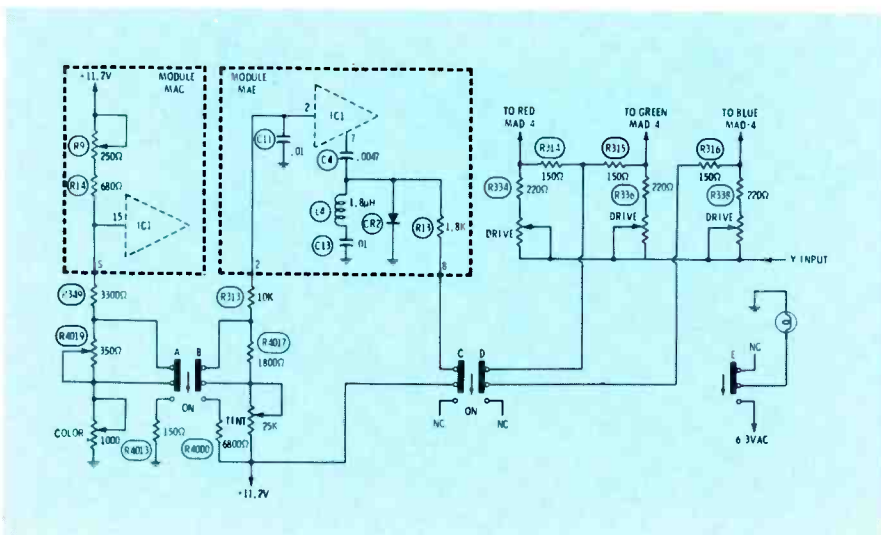

Fig. 5 Schematic diagram of the AccuMatic switching circuit used in the CTC 46 chassis.
Fig. 5 Unequal amplification of subharmonics also changes the shape of a waveform, as illustrated by these two photos. (A) Normal rectangular waveform. (B) Distorted rectangular waveform produced when the gain of the 10th subharmonic was reduced 1 dB.
In the RCA CTC 46 chassis, the ranges of the color and tint controls are restricted at the same time that the demodulation angles are shifted and the B-Y gain is decreased. All this will allow the customer to obtain reasonably good hues in the flesh-color region, regardless of how badly the controls are misadjusted. Fig. 5 shows the simplified circuits.
In the "on" position, the "A" section of the AccuMatic switch in Fig. 5 simply restricts the range of the color control by shunting a resistance across it and adding a small series resistance at one end. To adjust R4019, adjust the color control for best color with the AccuMatic switch in the "off" position; then place the AccuMatic control in the "on" position and turn R4019 until the same color level is obtained. The most difficult part of this adjustment is finding R4019. It is physically located on the front of tint control) and is accessible (hollow shaft surrounding solid shaft of tint control) and is accessible from the front panel after the tint control knob is removed.